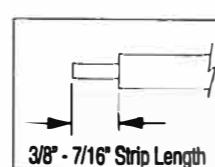

FIGURE 4
11. Cut supply cable to desired length. Strip black and white wire leads with wire strippers to expose 3/8"-7/16" of bare metal. See Fig. 4.
- Using Wirenuts (3) provided, connect supply (house) wires to fixture wires - white to white, black to black, and green to green or bare copper ground wire.
11. Corte el cable de suministro a la longitud deseada. Pele el alambre blanco y negro con un pelacables hasta exponer 3/8"-7/16" de metal descubierto. Vea Fig. 4.